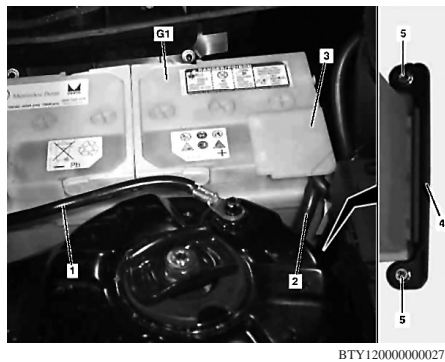

Fig. 1 Battery removal
4. Detach ground cable (1) from battery, **Fig. 1.**
5. Remove positive terminal cover (3), **Fig. 1.**
6. Detach positive cable (2) from battery, **Fig. 1.**
7. Remove battery mounting nuts (5), **Fig. 1.**
8. Remove battery mounting bracket (5), **Fig. 1.**
2. Install battery mounting bracket (5), **Fig. 1.**
3. Install battery mounting nuts (5), **Fig. 1.**
4. Attach positive cable (2) to battery, **Fig. 1.**
5. Install positive terminal cover (3), **Fig. 1.**
6. Attach ground cable (1) to battery, **Fig. 1.**